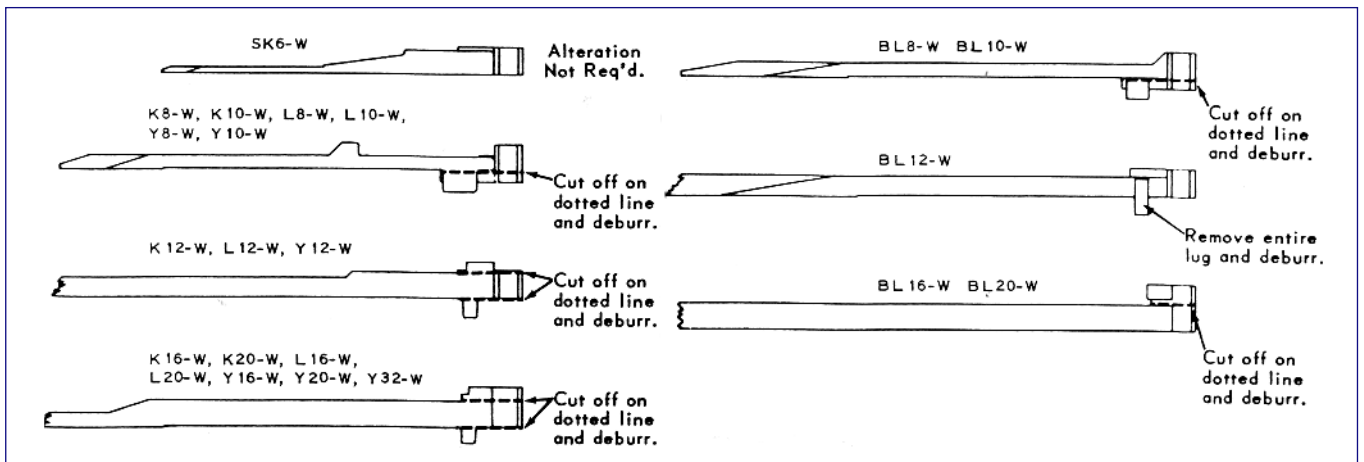

**FIGURE 3, Assembly**
4. Attach Adapter to P-180 with 2 capscrews as shown (see Figure 3).
5. Insert Mandrel into Adapter with Wedge and Stone Retainer side by side and tighten setscrew (refer to Figure 3).
6. Place Stone in Mandrel (refer to Figure 3).